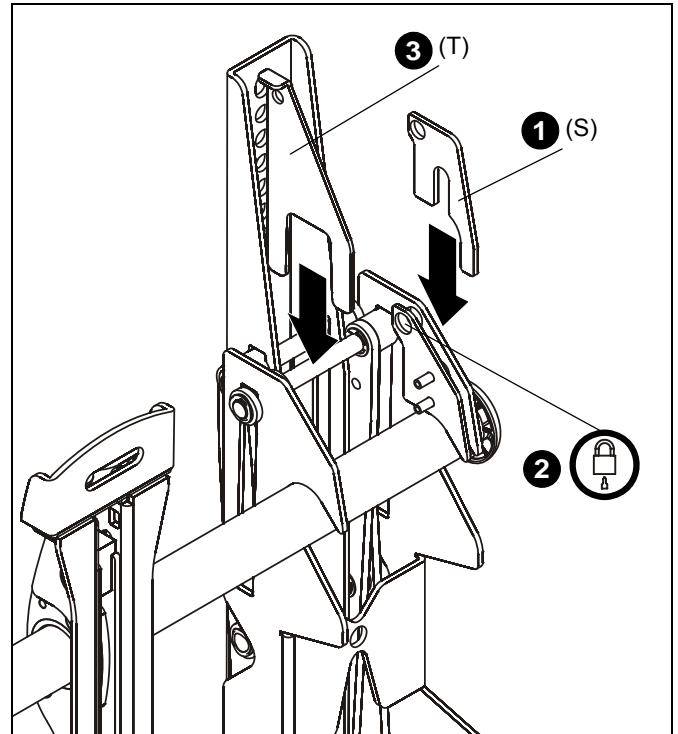

Figure 15
1. Add security bracket (S) to the mount. (See Figure 15)
2. Add padlock (not included) through holes on small security bracket (S) and mount.
3. Add hold-back bracket (T) to the mount to secure mount in recessed position. (See Figure 15)